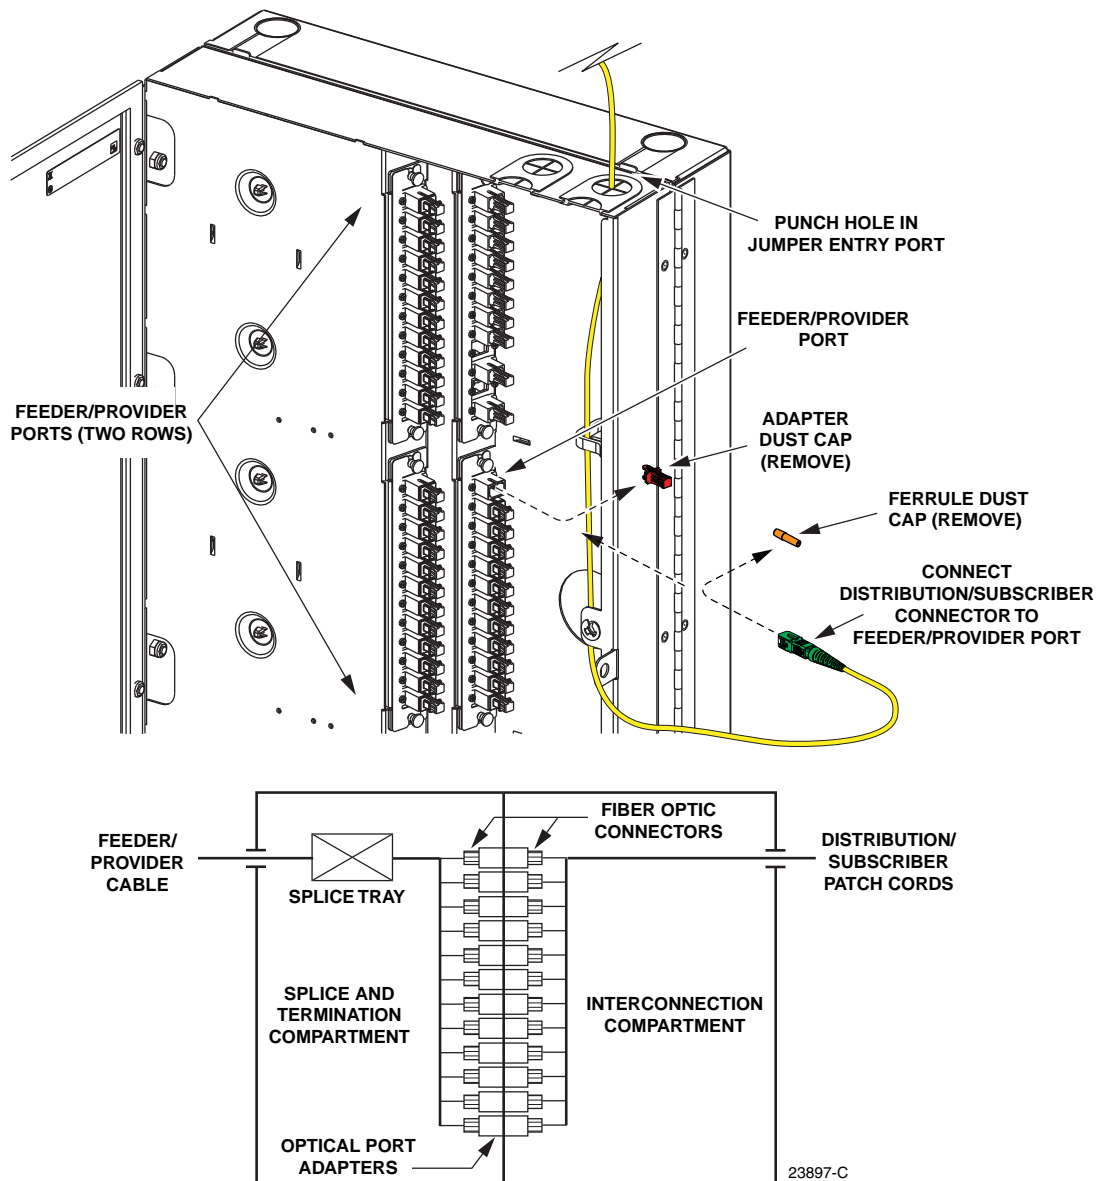

Figure 10. Interconnection Method and Diagram
1. Punch a hole through the soft rubber material covering the selected jumper entry port and then route the jumper patch cord into the cabinet as shown in Figure 10.